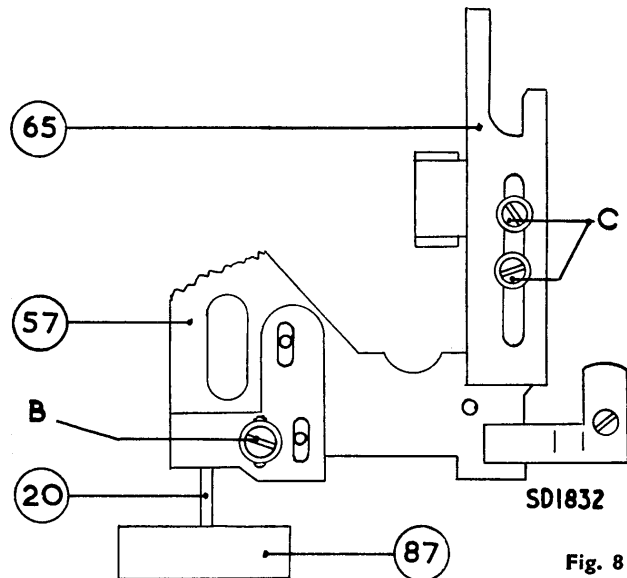

Fig. 8
- (ii) Adjustments (see Fig. 8).